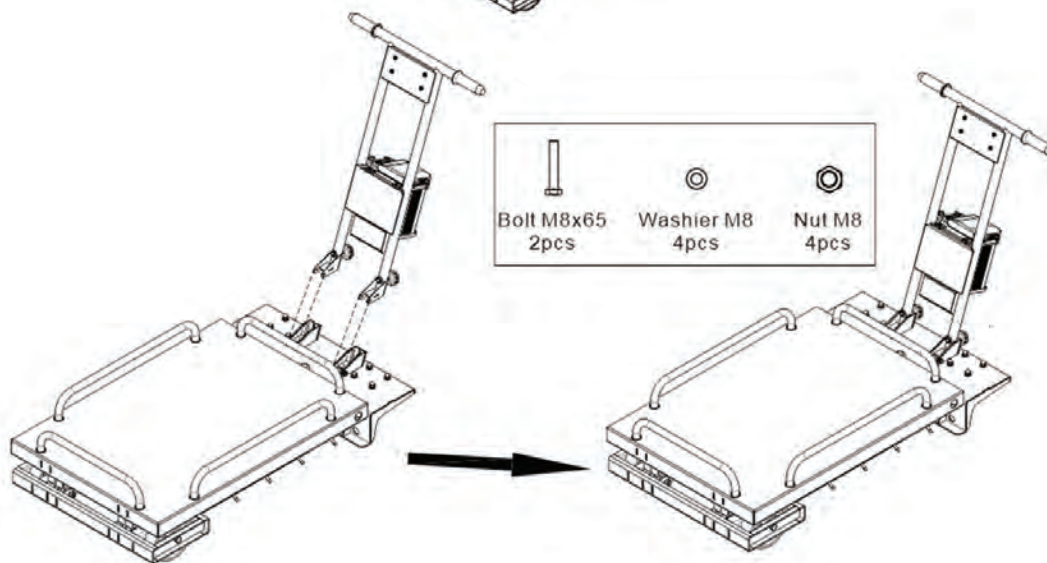

FIGURE 2
3.2 Attach the Handle Assembly(**FIGURE 2**)